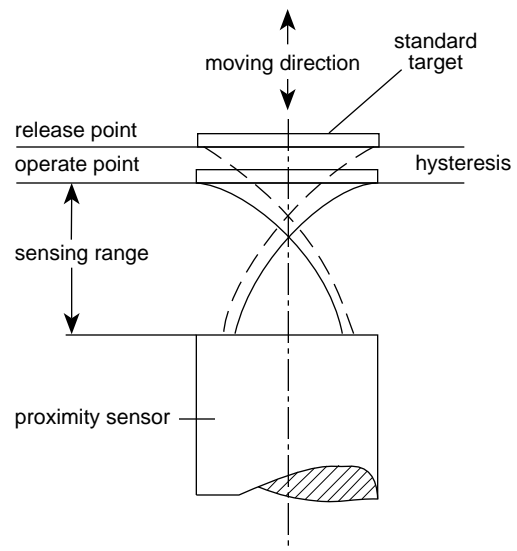

Figure 1
**Hysteresis:** The difference between the operating point and the release point of a sensor. (See Fig. 1)
**Operate Point:** The point at which a target is sensed. (See Fig. 1)
**Release Point:** The point at which the sensor returns to a non-energized state as the target leaves the sensing field. (See Fig. 1)
**Sensing Range:** The distance from the sensing face to a standard target at a specific temperature (usually 77°F). Most industrial type sensors usually will hold this range +/- 10% of rated sensing range. (See Fig. 1)
**Standard Target:** A mild steel plate 1mm thick, with sides equal to the diameter of the sensing face or 3 times rated sensing range, whichever is greater. (See Fig. 1)